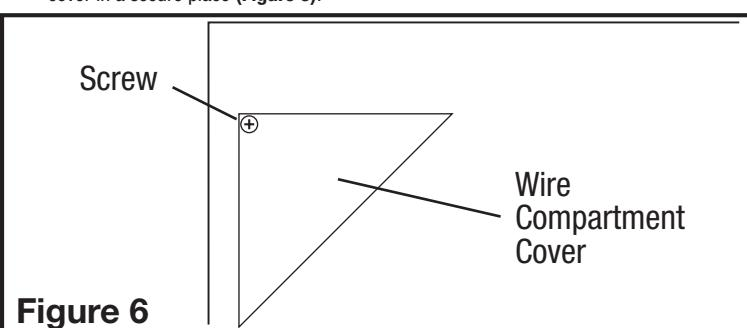

Figure 6
- External Wire Compartment:** Remove the wire compartment cover screw and place cover in a secure place (Figure 6).